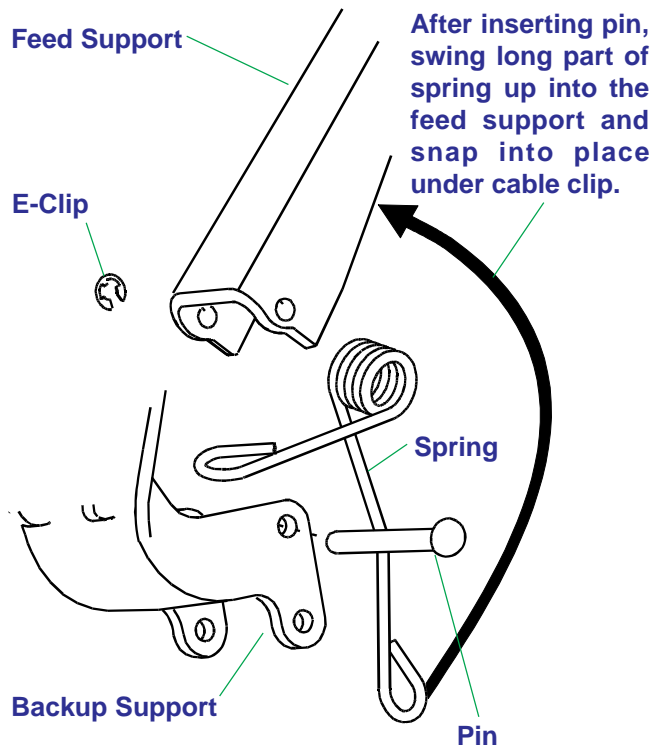

FIGURE 1
STEP 1. Attach feed support to the backup support. See Figures 1 & 2. Make sure spring is locked into place.